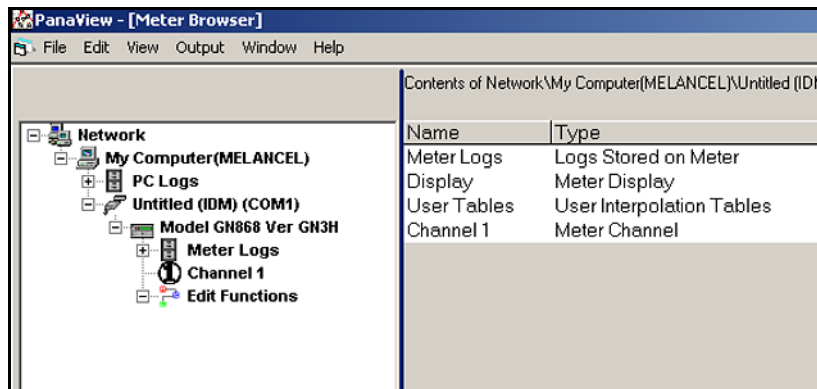

Figure 35: New Meter Browser - Meter Branch
3. Expand the meter tree as shown in *Figure 35* below.